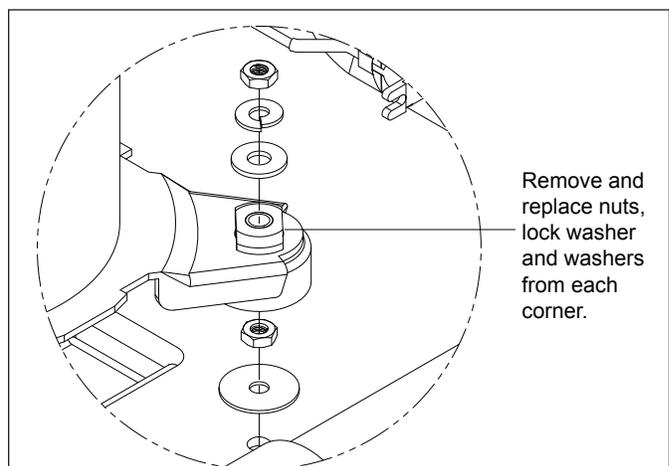

Figure 8. Remove and Replace Compressor Hardware
4. Remove the nuts, lock washer, and washers from the four (4) corners of the compressor. Refer to Figure 8.